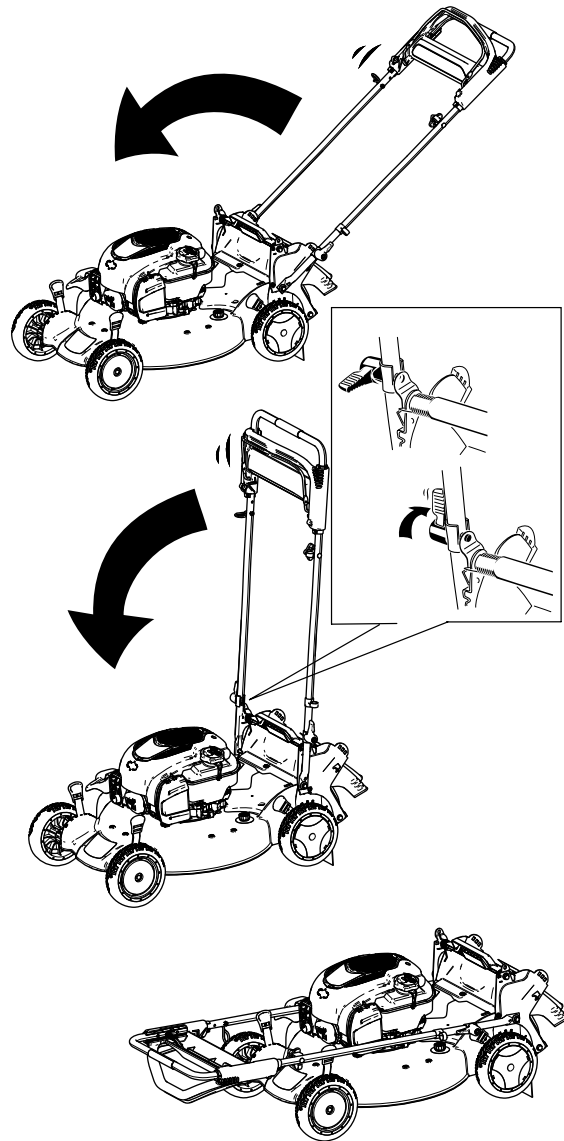

Figure 36
2. Rotate the handle forward (Figure 36).